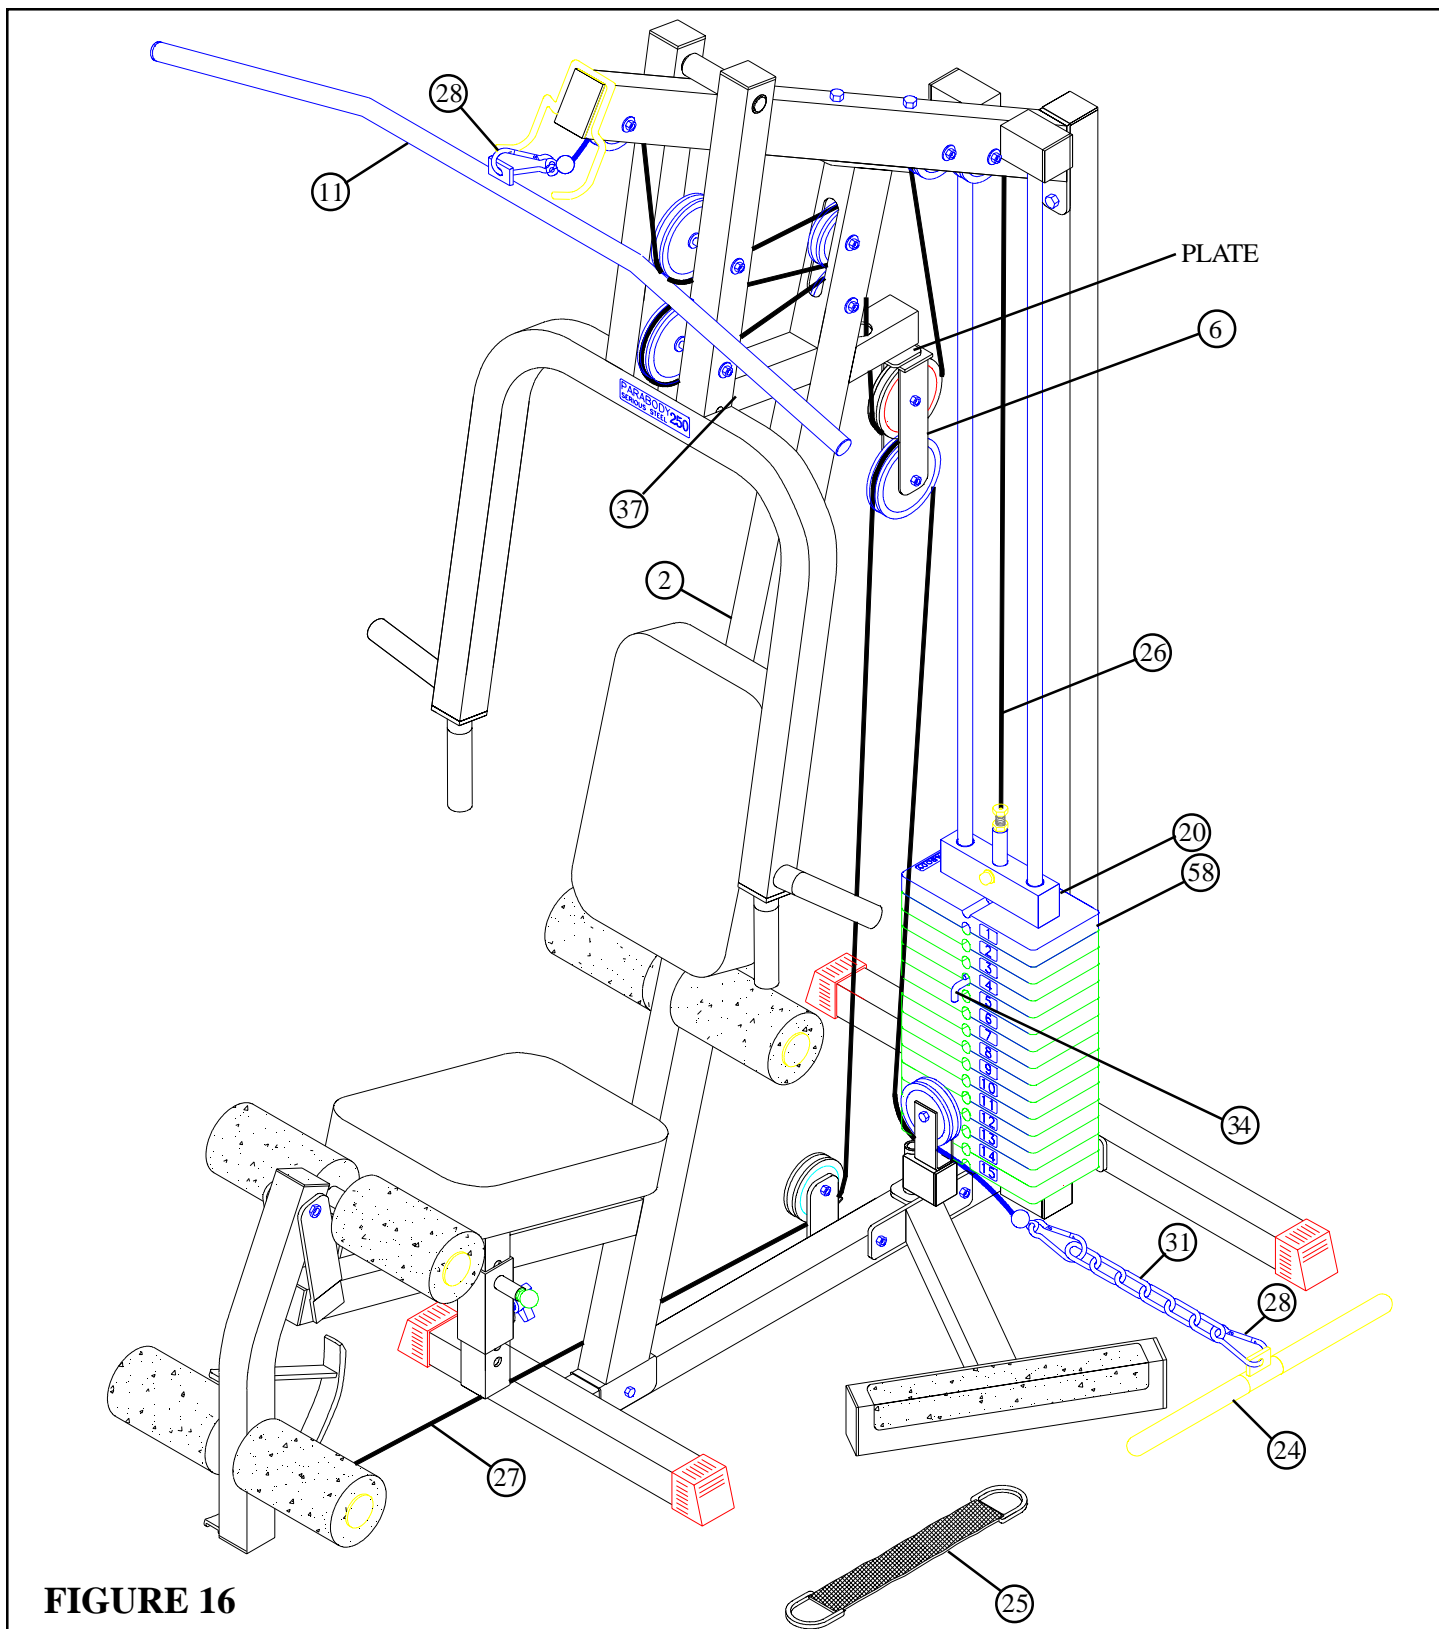

**FIGURE 15**
- Securely assemble one 4-1/2" PULLEY (18) to the FLOATING PULLEY BRACKET (6) using one 3/8 X 1-3/4" BOLT (49) and one 3/8" LOCK NUT (41) as shown in FIGURE 15.
- Securely assemble one 3-1/2" PULLEY (19) to the BASE (8) using one 3/8 X 1-3/4" BOLT (49), one "L" BRACKET (55), and one 3/8" LOCK NUT (41) as shown in FIGURE 15. (**Note: The "L" BRACKET should be positioned at a 45 degree angle to function properly.**)
- Route the "Loop" end of the LEG CURL CABLE (27) around the SWIVEL PULLEY BRACKET (5) and the previously installed pulleys and securely assemble it to the LEG CURL EXT (1) using one 3/8 X 1-1/4" BOLT (44), one 3/8" WASHER (38), and one 3/8" LOCK NUT (41) as shown in FIGURE 15.